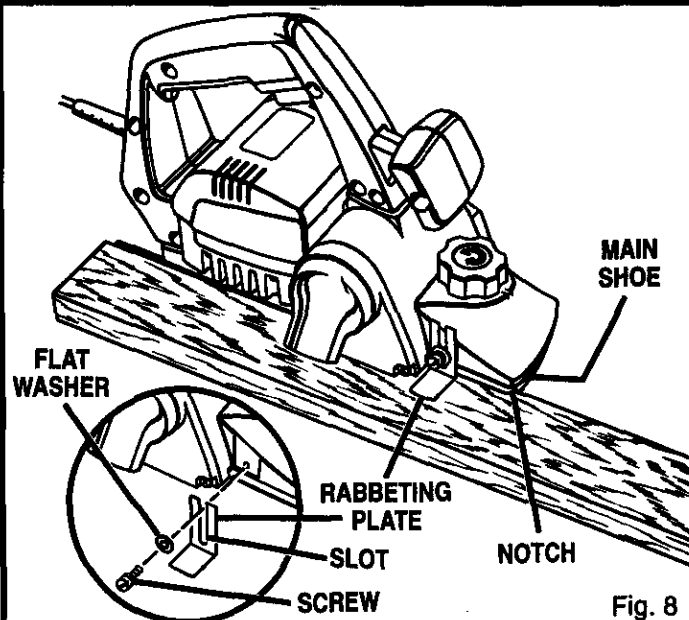

Fig. 8
See Figure 8.
3. Loosen screw and position the bottom surface of the rabbeting plate above the board the same distance as the desired depth of cut. See Figure 8.
NOTE: When making a rabbet cut, place the notch located on the inside of the main shoe firmly against the side of the board as shown in figure 8. The rabbeting plate should also be pressed firmly against the top surface of the board.